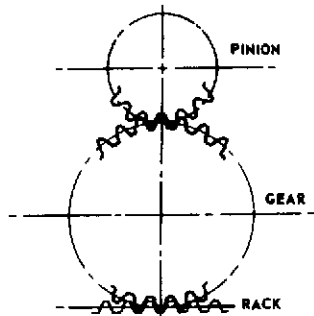

FIGURE 1.1 — GEARS
- 1.01** **Gears** are machine elements that transmit motion by means of successively engaging teeth. (Figure 1.1)
- 1.02** A **Gear** is any machine part with gear teeth. Of two gears that run together, the one with the larger number of teeth is called the gear. (Figure 1.1)
- 1.03** A **Pinion** is a gear with a small number of teeth. Of two gears that run together, the one with the smaller number of teeth is called the pinion. (Figure 1.1)
- 1.04** A **Rack** is a gear with teeth spaced along a straight line, and suitable for straight-line motion. (Figure 1.1)